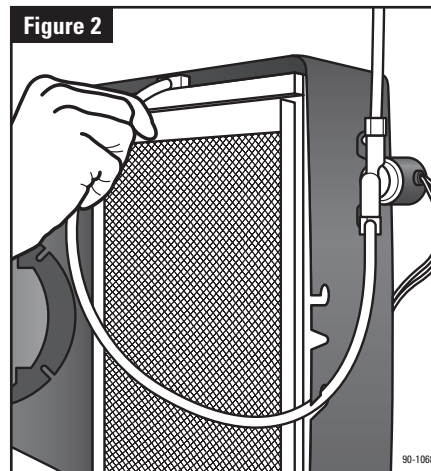

Figure 2
6. Insert evaporative assembly into base. Make sure bottom of scale control insert (6) is seated in water level sensor assembly (9). Snap top of evaporator assembly into base. Insert feed tube into distribution tray. (See Figure 2) Make sure float cover (14) is snapped into place and that floats (13) move freely up and down. Rotate nameplate (11) if necessary, so it is right side up. Place point bypass damper handle (8) to "WINTER" (open) for heating season and "SUMMER" for cooling season.